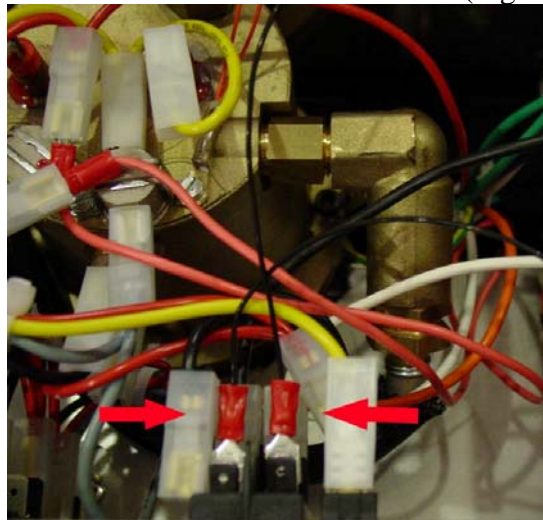
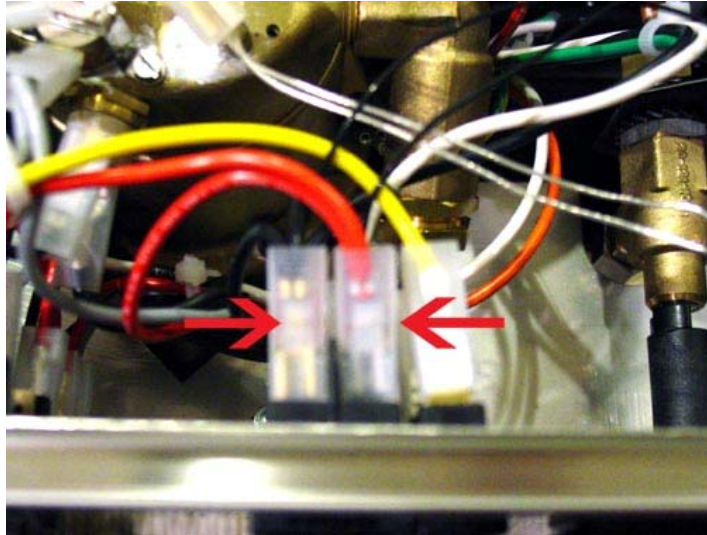

Figure 13. The controller power cable piggyback connector location (red arrow).
Figure 14. Put the original power cables back.
- 3) The power for the controller box is tapped from the main power switch by using the piggyback connectors on the new black cables. Remove the connectors with black and red cable on the main power switch (red arrows on Fig 11). Remember the original position: the connector with black cable was on the left and connector with red cable in the center). Slide the two controller power cable piggyback connectors on to the switch as shown in Fig 13. The tab on the piggyback connector should be on the top. You need to bend it downward a little bit if the angle is too high. There is no difference between the two black colored cables. After installing the connectors, connect the cables that were just removed to the tab on the piggyback connector. It is very important to keep the original position, black on the left and red in the center (Fig. 14).